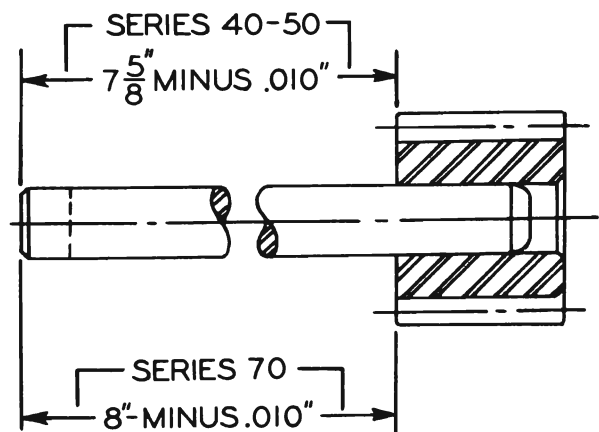

Figure 2-44—Position of Gear on Shaft
3. Check position of gear on shaft. The measurement should be same as shown in figure 2-44.